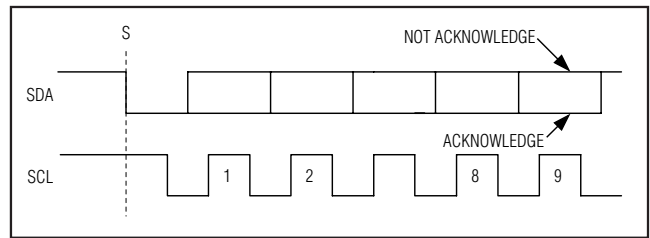

Figure 6. Acknowledge Bits
Successful data transfers are acknowledged with an acknowledge bit (A) or a not-acknowledge bit (\bar{A}). Both the master and the MAX11600-MAX11605 (slave) generate acknowledge bits. To generate an acknowledge bit, the receiving device must pull SDA low before the rising edge of the acknowledge-related clock pulse (ninth pulse) and keep it low during the high period of the clock pulse (Figure 6). To generate a not acknowledge bit, the receiver allows SDA to be pulled high before the rising edge of the acknowledge-related clock pulse and leaves it high during the high period of the clock pulse.